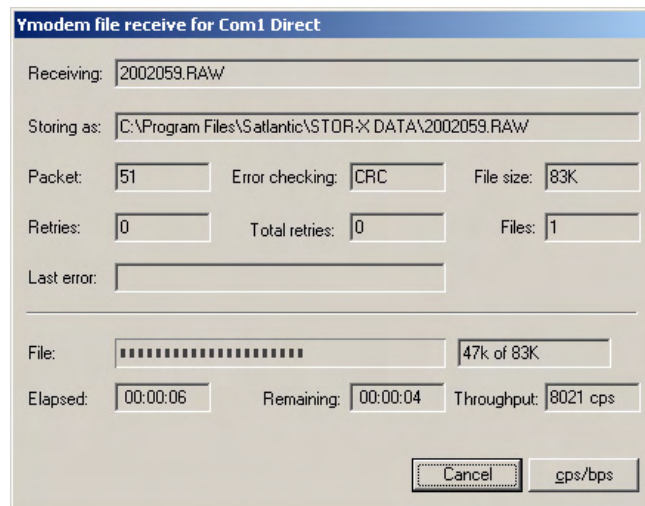

Figure 39 - HyperTerminal – Ymodem receive display
- The file begins to download, with the progress displayed on screen as shown in Figure 39.